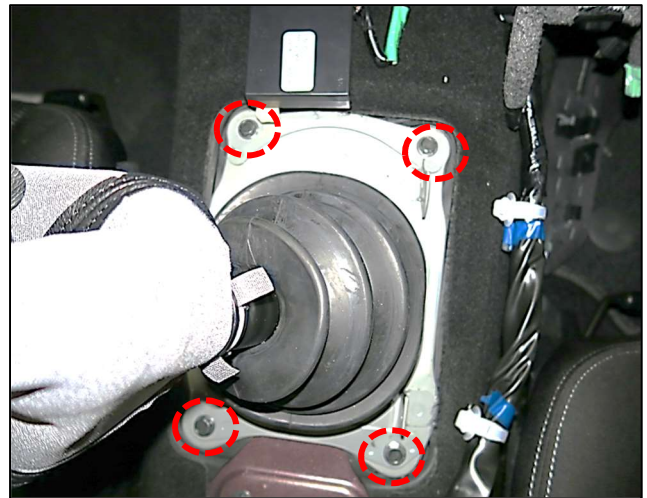

Figure 23
22. Remove the hole cover. (Figure 23)
- Remove the (4) bolts securing the hole cover to the floor